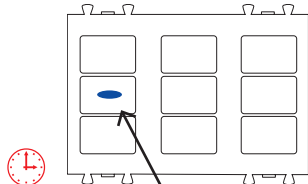

Fig. 14b
Resting one finger in the area for a time (T) associates that timing to the area (see Fig. 14b and 14c).